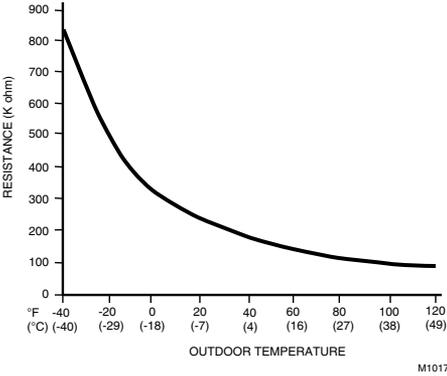

Fig. 3. C7089B sensor resistance vs. temperature performance characteristics.
The C7089B has a negative temperature coefficient (TC), which means that the resistance increases as the temperature decreases. Fig. 3 shows the resistance characteristics of the C7089B Sensor.
To verify the resistance of the sensor, remove one wire from one of the C7089B wiring terminals. Use an ohmmeter to measure the resistance across the sensor. Then verify sensor accuracy with the temperature/resistance curve of Fig. 3.